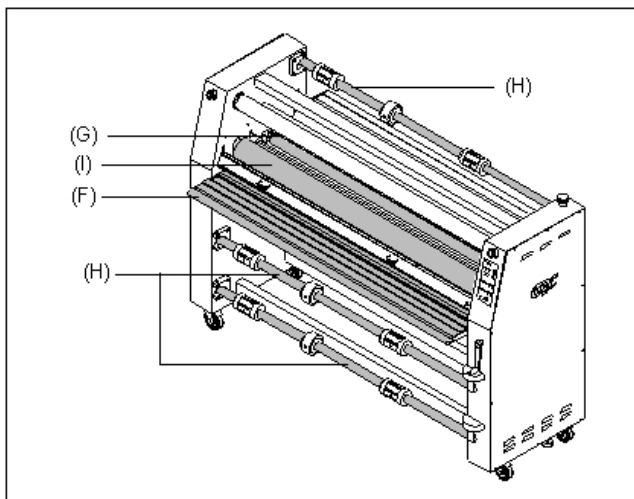

Fig 12
G. FEED TABLE: (Figure 12) The Feed Table is used to position items for lamination. To pivot the feed table, remove the safety shield, lift up on the feed table, pull back, then carefully lower. The laminator will operate only when the Feed Table is properly installed.
H. CHILL IDLER: (Figure 12) Assist in the cooling process of the web material as it exits the heat rollers.
I. FILM SHAFT: (Figure 12) The film shaft holds the film supply on the machine.
J. MAIN ROLLERS: (Figure 12) Silicone rubber coated steel tubes heat the laminating film and compress the heated film to the items being laminated. Heat is provided by an internal heating element. The heat rollers are motor driven for ease of loading new film.